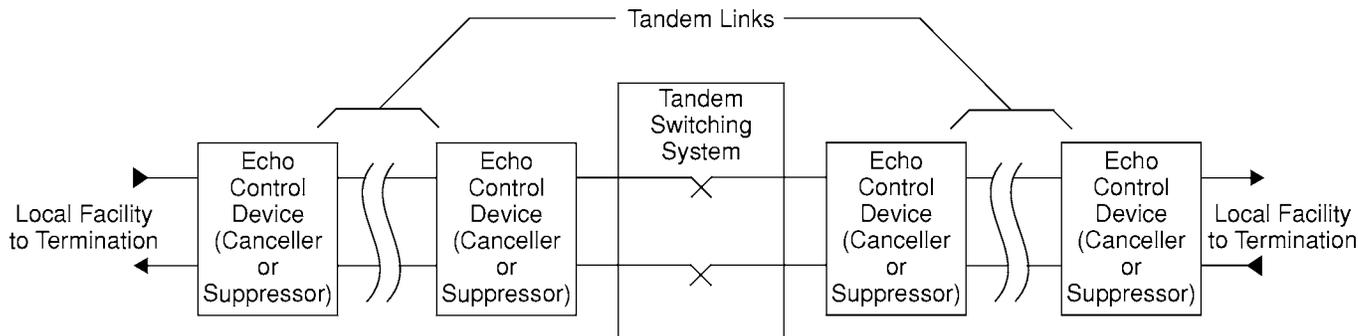

Figure 2-2 Tandem Path Involving Two Links, Both With Echo Control Devices
- 2.21 In certain applications, a switching system sets up a tandem path involving two links that are both equipped with echo control devices (see Figure 2-2). If the two intermediate devices – those closest to the switch – are echo suppressors, these suppressors must be disabled by the switch regardless of whether the distant end devices are echo cancellers or echo suppressors. If the two intermediate devices are echo cancellers, these cancellers need not be disabled by the switch regardless of whether the distant end devices are echo suppressors